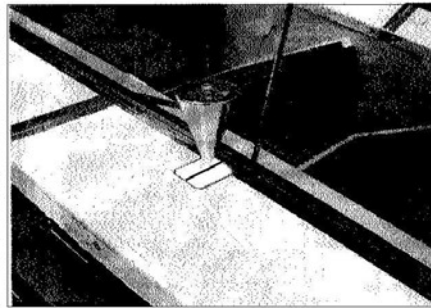
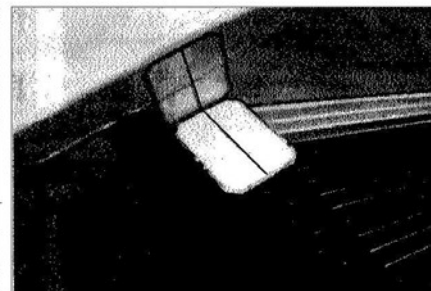

Fig 2
Fig 4
5.1.2 Startup the escalator and let it run some distances upward or downward(Don't over the straight line section).Decide the corresponding position on exterior covering plate according to the mark on handrail(See Fig 2).Decide the corresponding position of skirt plate according to the mark on step(See Fig 4).